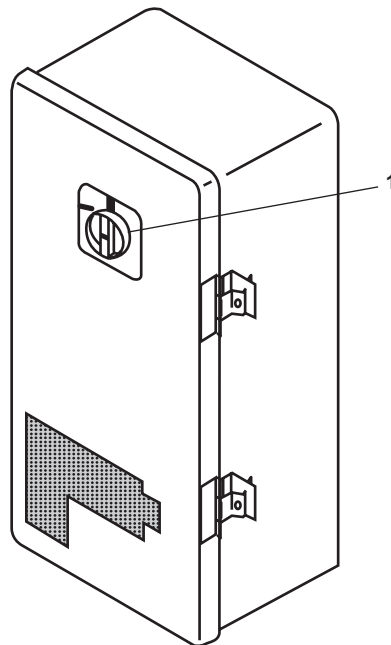

Figure 7. Reheater ON/OFF Switch
2. Position all reheater ON/OFF switches (figure 7, item 1) to OFF.